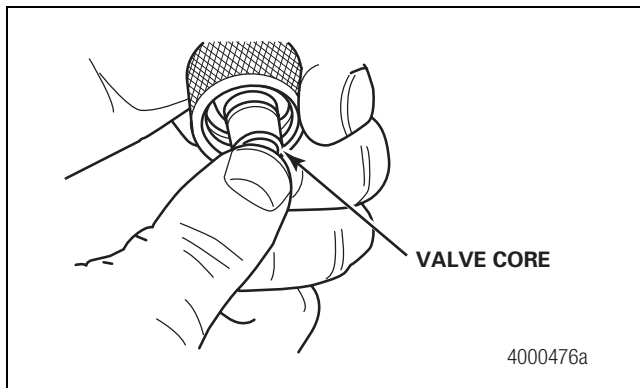
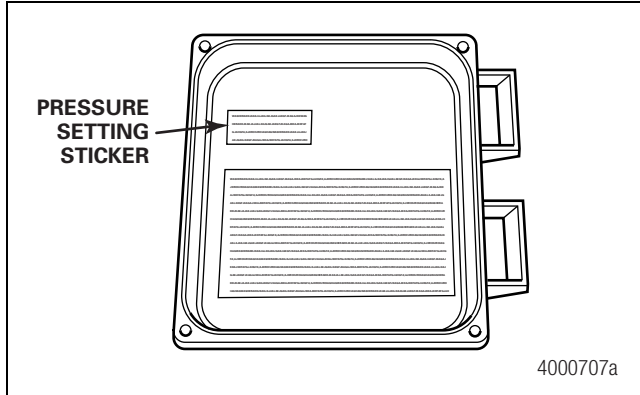

Figure 3.5
Figure 3.6
7. Push on the valve cores at the ends of the hoses attached to the tires. Air should flow from the tires. Figure 3.5.
8. Use the valve cores in the hoses to reduce pressure in all the tires 5 to 10 psi below the desired tire pressure. A sticker located inside the control box door indicates the tire pressure that the inflation system will deliver. Figure 3.6. For example, if the fleet runs 100 psi (689 kPa), reduce the tire pressure to 90 to 95 psi. Figure 3.5.